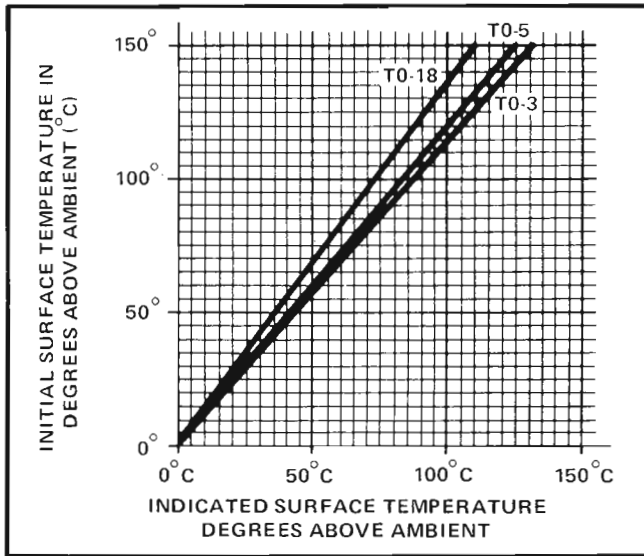

Figure 6-2. INITIAL CASE TEMPERATURE ABOVE AMBIENT versus METER READING ABOVE AMBIENT
3. To determine the actual surface temperature of a device, both the heat-sinking and steady-state errors must be considered. The correction curve given in Figure 6-2 approximates the effect of both error sources on TO-3, TO-5 and TO-18 transistor cases.